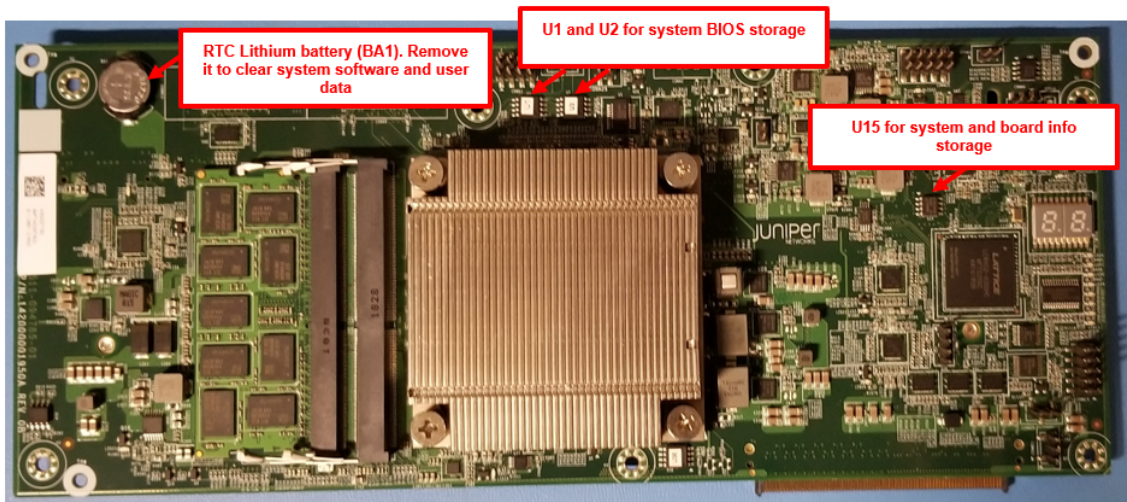

Figure 3-8. Locate NV storage devices on CPU board
8. Locate NV storage devices on CPU board (Figure 3-8).